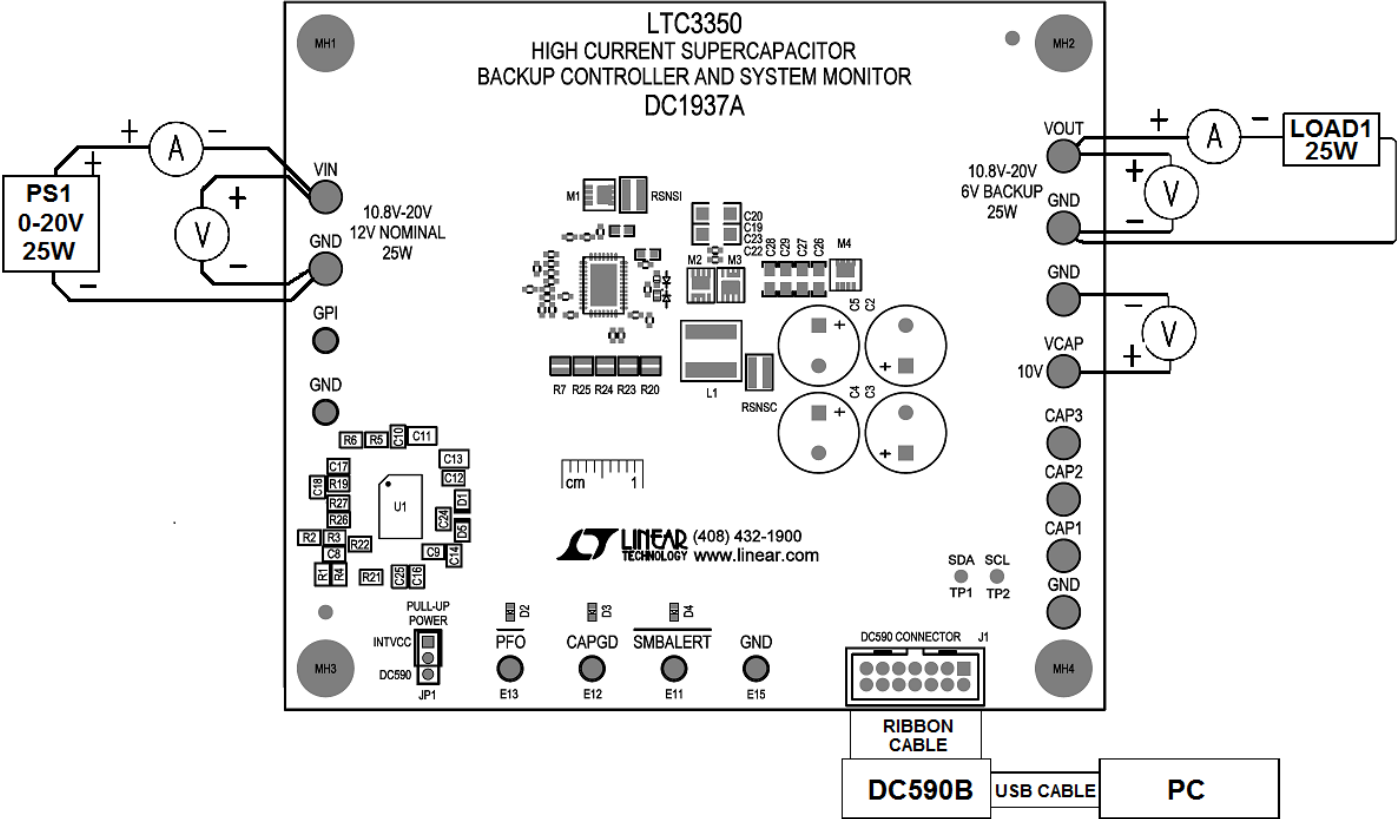
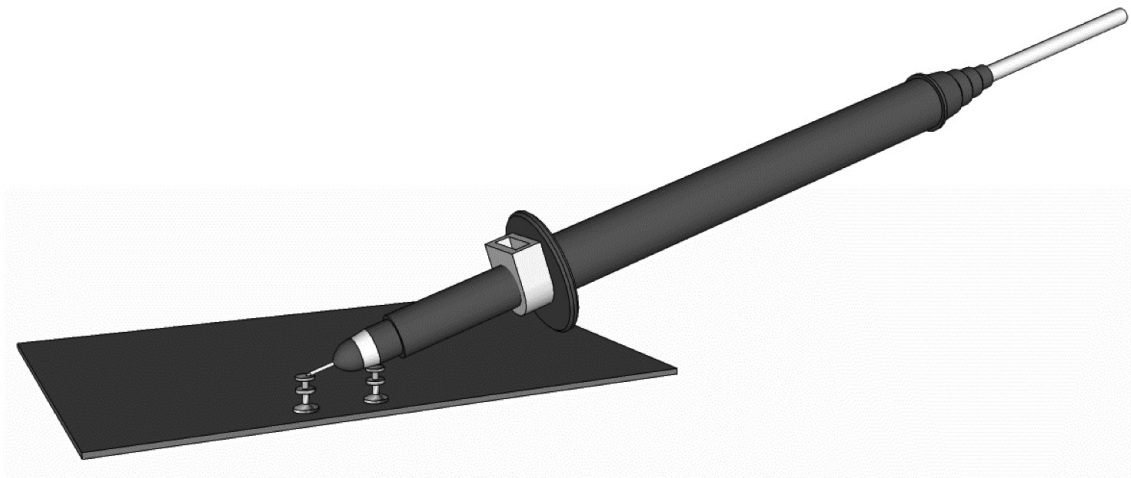

Figure 1. Proper Measurement Equipment Setup
Figure 2. Measuring Input or Output Ripple
Obtain and connect a DC590B board to the DC1937A board. Using short twisted pair leads for the power connections and with the LOAD and the power supply OFF. Refer to Figure 1 and Figure 2 for the proper measurement and equipment setup. Follow the procedure below.
7. With power off, connect a 0V to 20V, 25W supply between the VIN and GND terminals with a series ammeter and a voltmeter as shown in Figure 1.